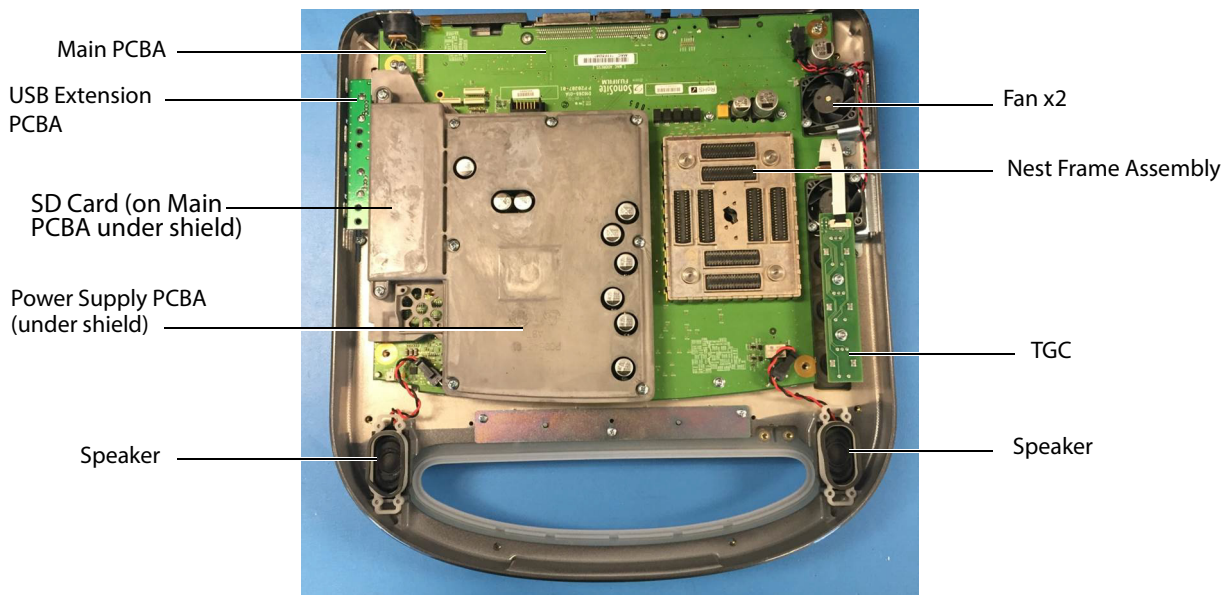

Figure 6.10 System Components
- 4 Follow the cable removal from the procedure in "Display Removal" on page 41/42. This exposes all of the replacement parts for the main system per Figure 6.10.